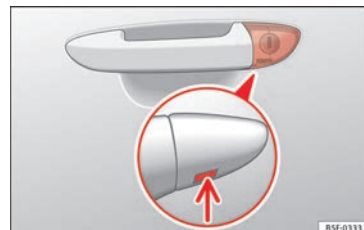

Fig. 4 Driver door lever: hidden lock cylinder.
- Insert the key shaft into the lower opening in the cover on the driver door handle » **Fig. 4** (arrow) then remove the cover upwards.